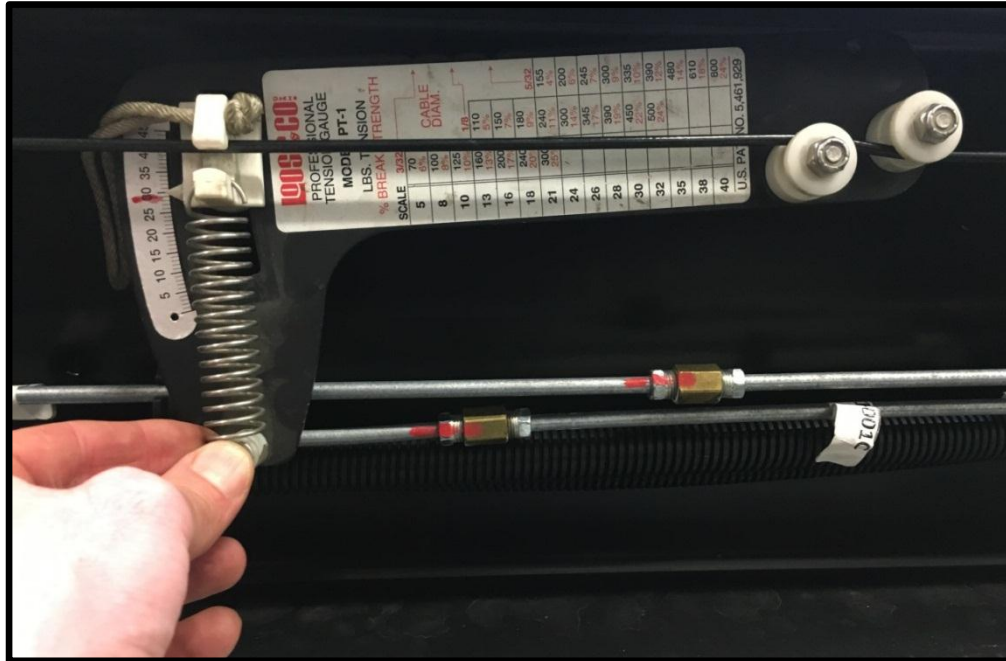

FIG. 5-1
10. Tighten park brake adjuster until 300 lbs. of tension is achieved. Refer to FIG. 5-1.